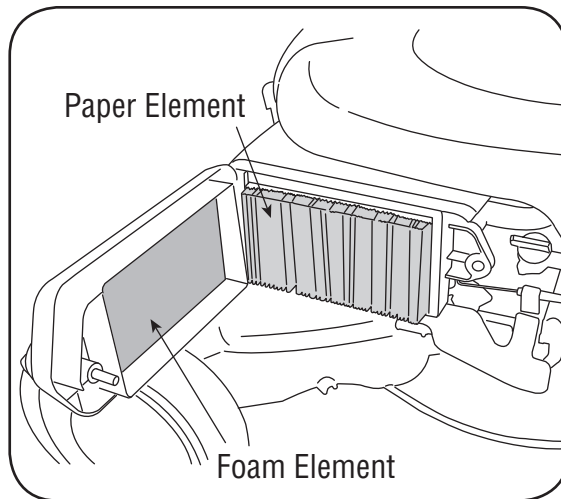

Figure 10-2
1. Remove the wing bolt and the air cleaner cover. Remove the elements and separate them. See Figure 10-2. Carefully check both elements for holes or tears and replace if damaged.